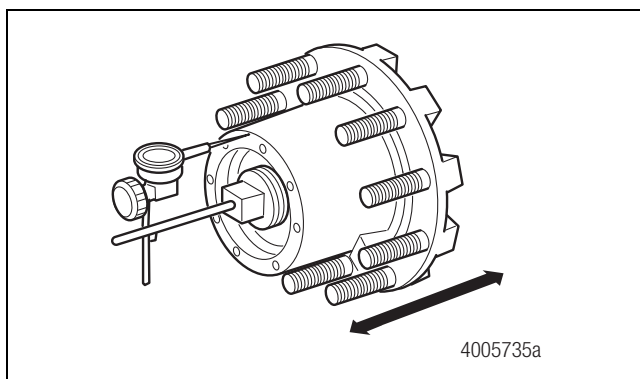

Figure 3.8
1. Remove the hubcap or drive axle shaft. Use an appropriate container to catch the lubricant. Attach the magnetic base of the dial indicator to the spindle. Touch the dial indicator stem to the hubcap mounting surface. Figure 3.8.